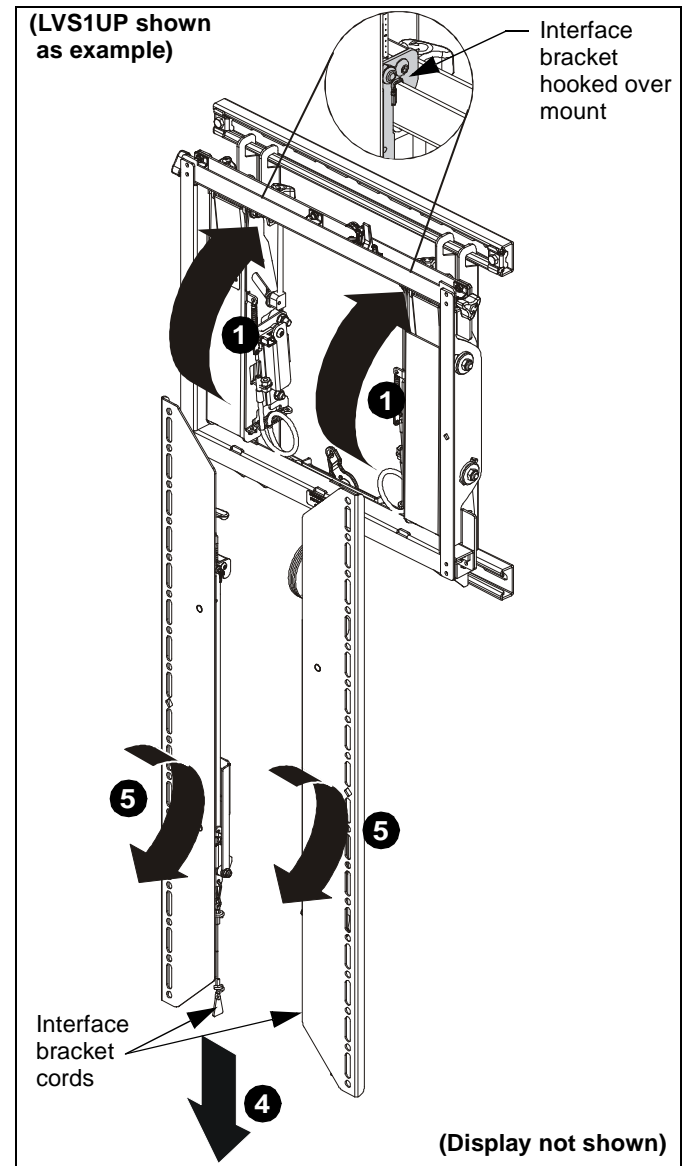

Figure 11
- Raise display with attached interface brackets and hook top of brackets into top of mount. (See Figure 11)
- The displays can be easily removed by pulling both interface bracket cords down. (See Figure 11)